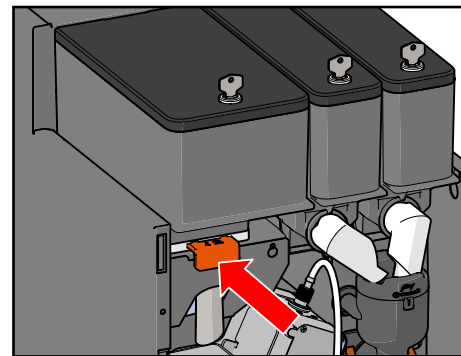

Figure 56.
2. Push the canister slide inside the canister until you hear a click (see Figure 56). This will release the canister and close it at the bottom.